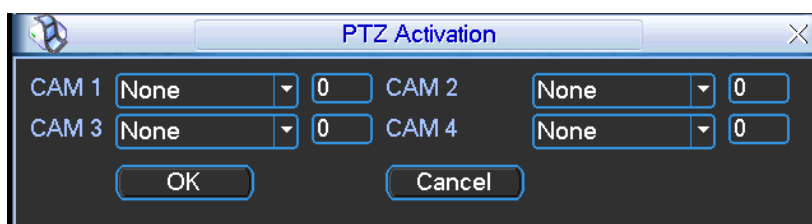

Figure 4-16
- PTZ activation: Here you can set PTZ movement when alarm occurs. Such as go to preset, tour & pattern when there is an alarm. Click “select” button, you can see an interface is shown as in Figure 4-16.